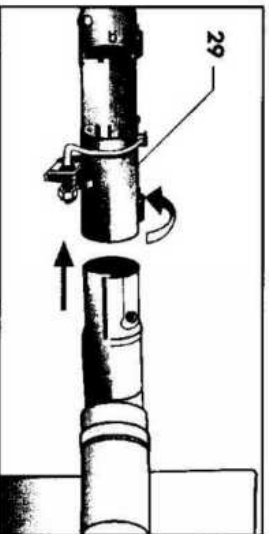

Fig. 14
- Install the female end of the sprinkler to the end of the brush and rotate the ring to lock the two parts together ! (Fig. 14)